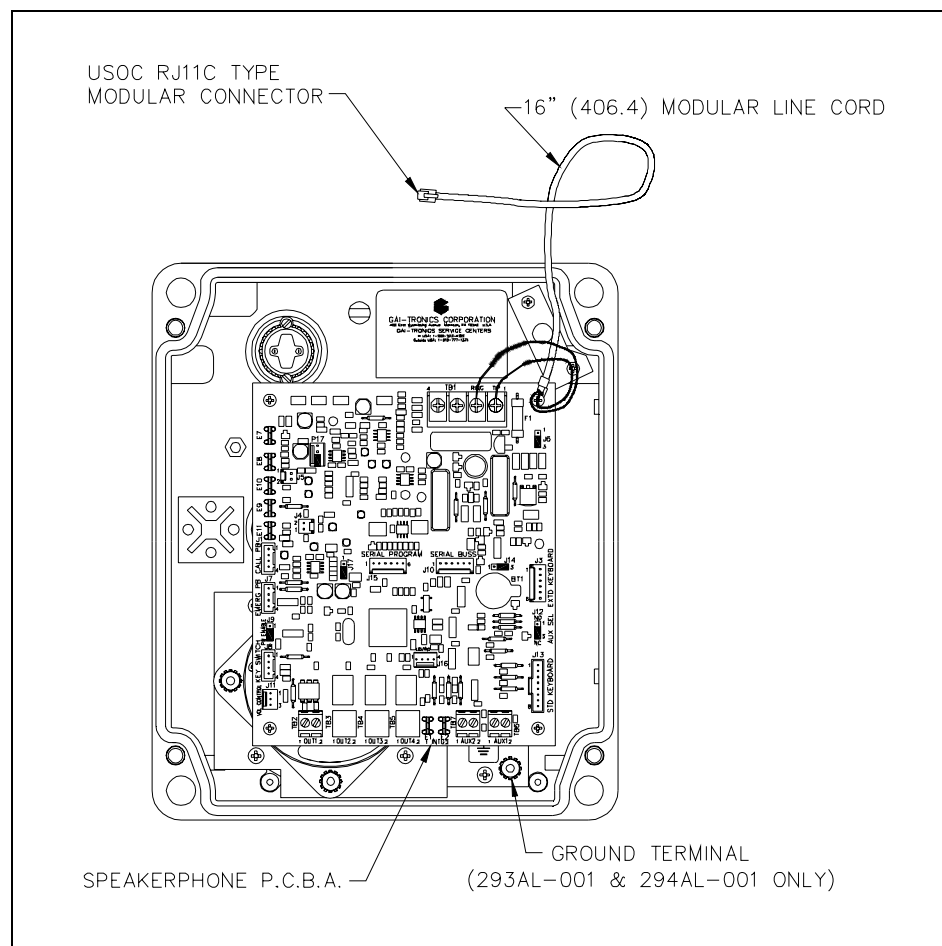

Figure 1. PCBA Connections for Model 293-001, 293AL-001, and 294AL-001
1. Align the holes in the four corners of the new PCBA with the standoffs in the telephone, maintaining proper orientation. See Figure 1.